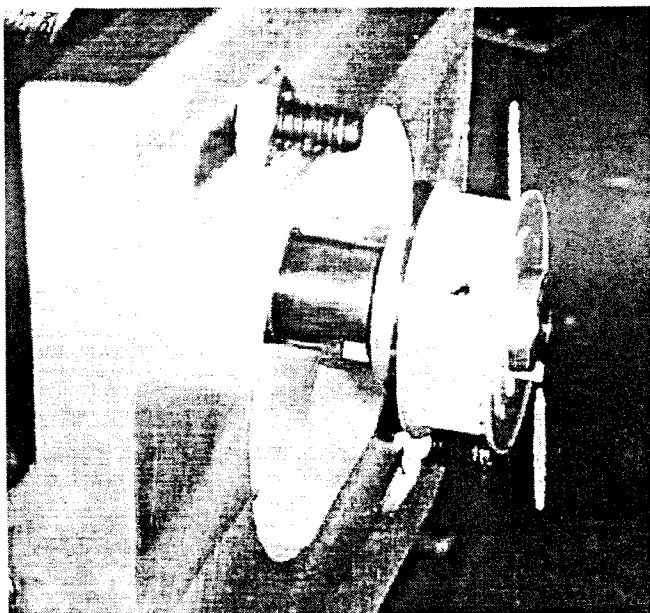

Figure 13
73. Slide the motor pulley (**Hub up**) over the shaft of the Servo motor until the same distance is achieved from the face of the motor plate to the first flange. Secure the pulley. **See Figure 13.**
76. Position the motor plate over the mounting holes on the top housing and fasten it using the (5) 10-32 x 3/4" SHCS supplied.